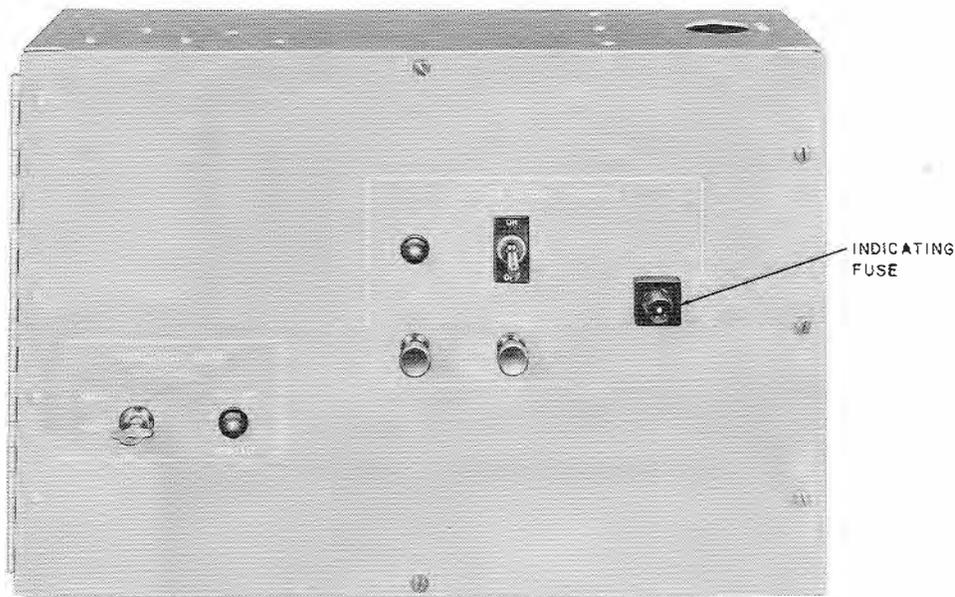

Fig. 3—Electrical Equipment Cabinet
**2.03** Activation of the detection unit is caused by a gamma radiation pulse. The radiation pulse reacts with the scintillation plastic producing a light pulse which is picked up by a photomultiplier tube. After converting the light pulse to an electronic pulse, the tube and associated printed circuit board components amplify the signal and send it to the electrical equipment cabinet (Fig. 3) where an output relay is deactivated.